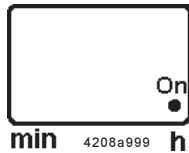

Fig. 19 - Green decimal point (pause time)
- Pump "On" is indicated on the display by an **illuminated decimal point** (pause time) (fig. 19).